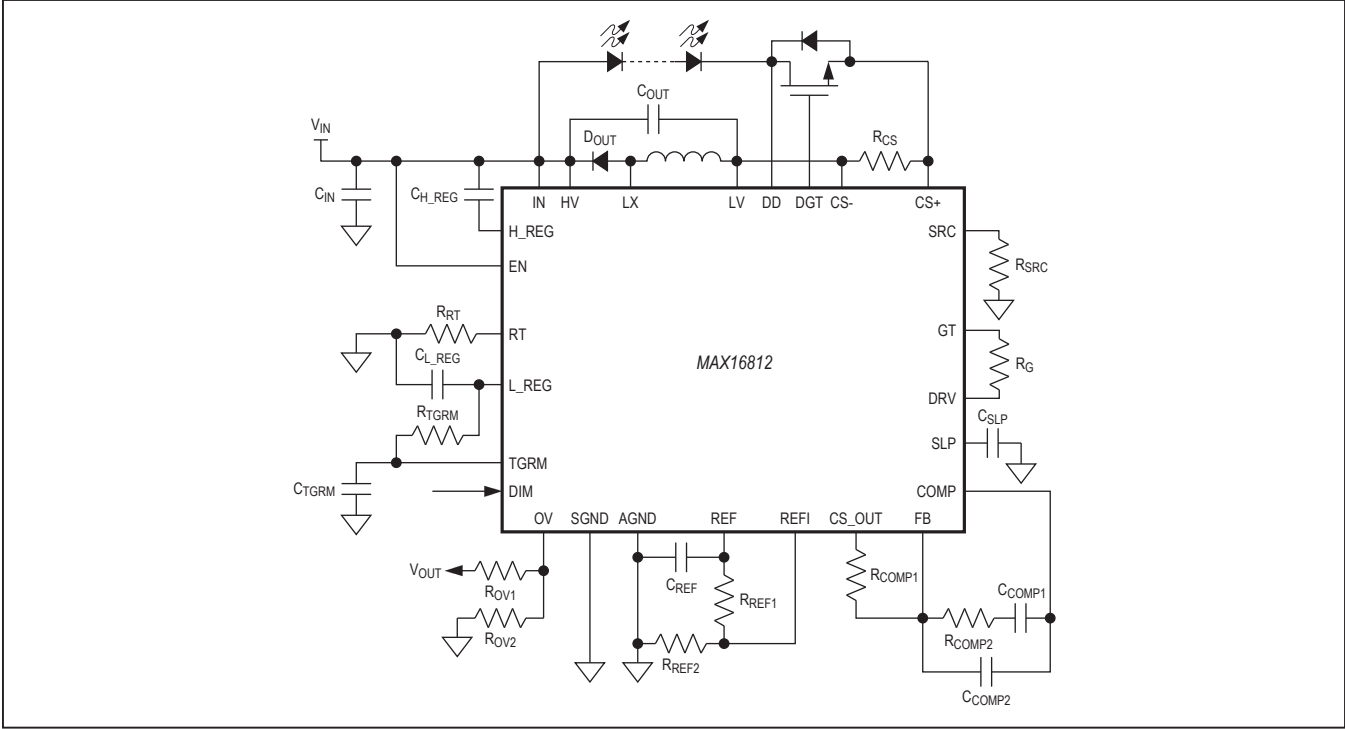

Figure 13. Buck Configuration
**Buck Configuration:** In a buck configuration (Figure 13), the average inductor current does not vary with the input. The worst-case peak current occurs at the highest input voltage. In this case, the inductance,  $L$ , for continuous conduction mode given by: